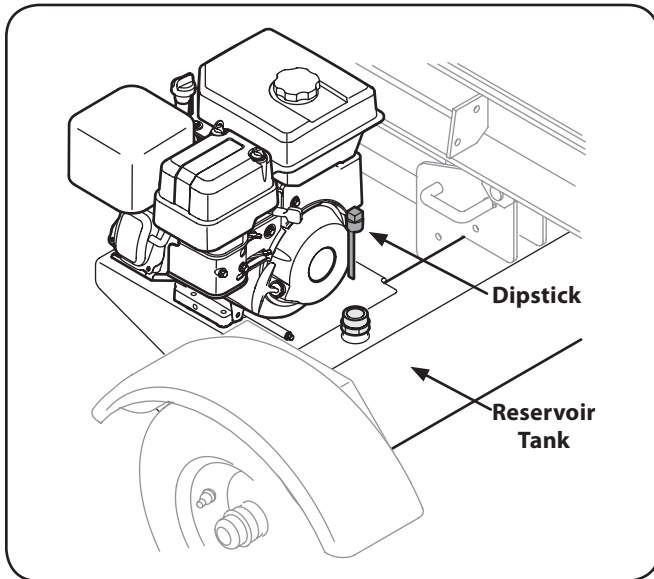

Figure 3-9
2. Remove the vented reservoir dipstick, which is located in front of the engine on top of the reservoir tank. See Fig. 3-9.
3. Check the fluid level using the dipstick. See Fig. 3-9. Do not overfill.